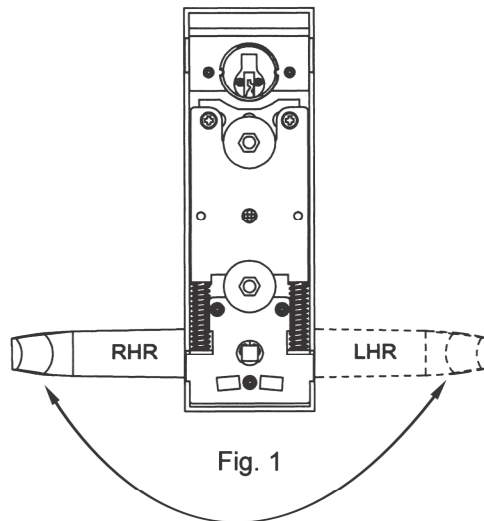

Fig. 1
1. Rotate lever handle to right or left direction to match desired door handling. (See Fig. 1.)